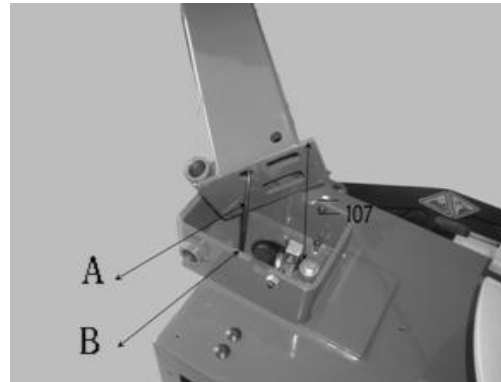
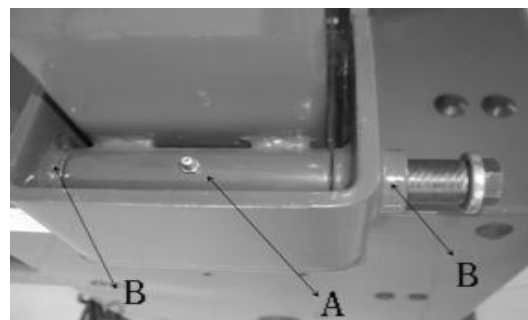

Fig 4-3
Fig 4-4
4.2.7 Rise up the column. Insert the PU hose at the bottom (Fig4-3 A) into the open at the top of the machine cabinet (Fig4-3 B) . Adjust the position of the column to align the rotation shaft bushing (Fig4-4 A) to the rotation shaft seat at the upper seat of the machine cabinet (Fig4-4 B) . Take out